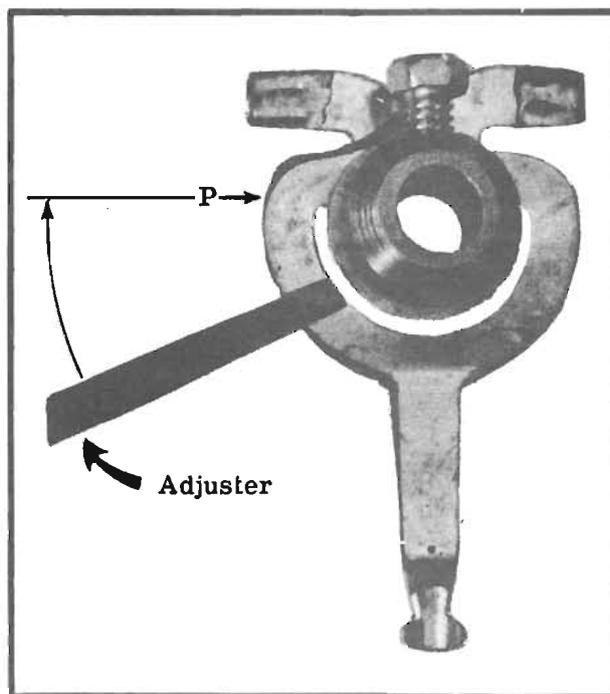

Figure 12. Remove Tension (Follow) From Line and Control Wiper Spring by Working Adjuster to Point P.
3.17 If wiper spring tension (follow) is to be removed, place the adjuster on hub end of wiper spring as shown in Fig. 12. With a slight twisting motion (opposite to wiper spring follow), work the adjuster to P to remove tensioning effect. Adjust both upper and lower wiper springs to insure equal wiper pressure on the bank contact.